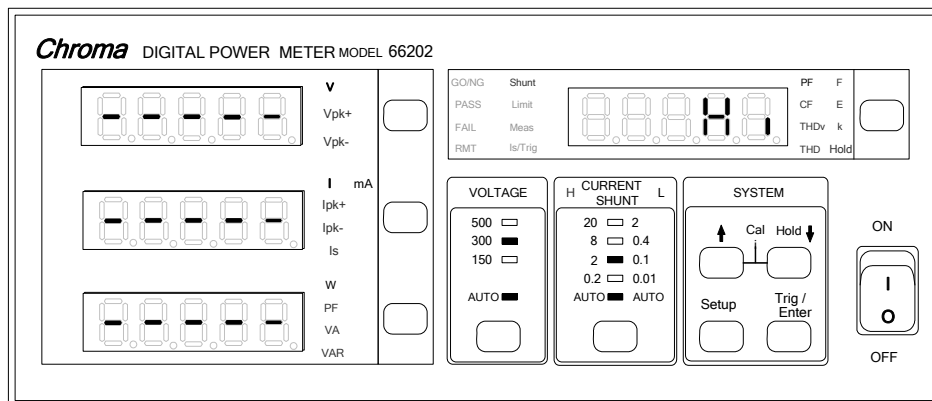

Figure 4-14 Setting Shunt
1. Press **Setup** to select Shunt and the indicator of Shunt is on. Figure 4-14 shows the setting of Shunt.